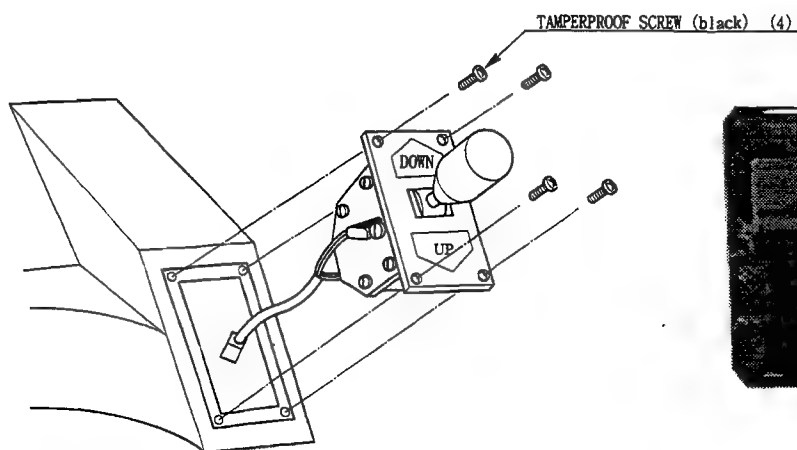

FIGURE 64: SHIFT LEVER ACCESS
1. Remove the four tamperproof screws that secure the shift lever to the control panel (see Figure 64).